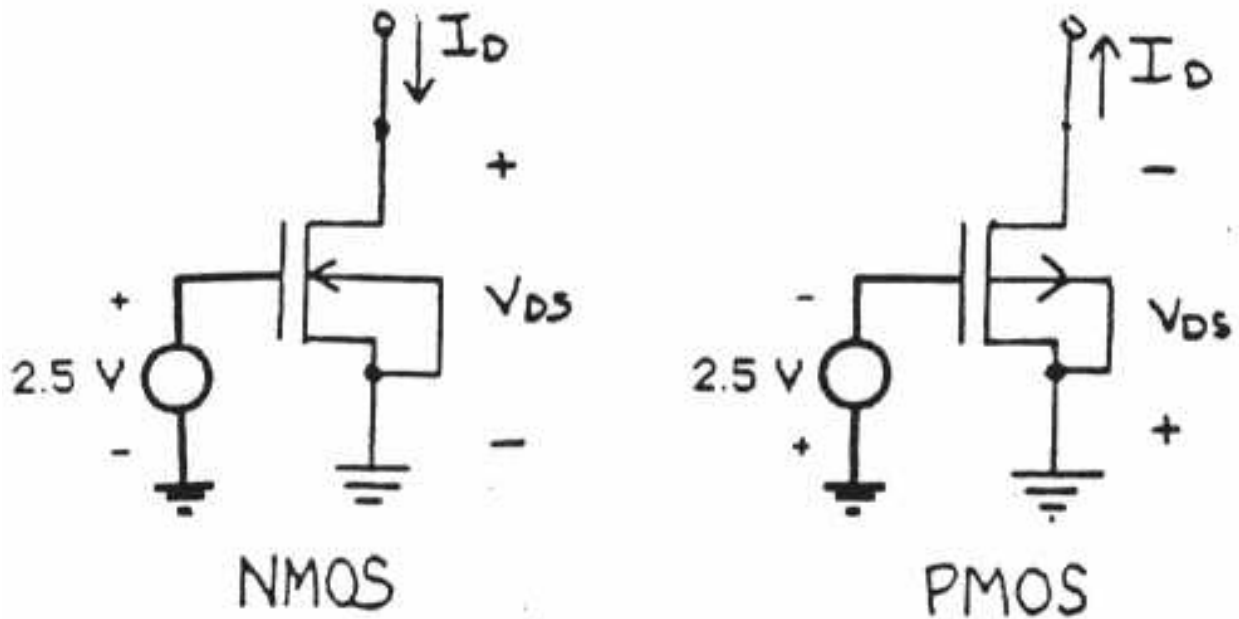

Figure 3: Connections to measure  $I_D$  for  $V_{BS} = 0V$ .
**Part 4 (20 points)** With  $V_{BS} = 0$  V and  $V_{GS} = 2.5$  V, measure drain current  $I_D$  at  $V_{DS} = 2, 2.5, 3, 3.5, 4, 4.5, 5, 5.5$ , and  $6$  Volts using the connections shown in Figure 3 for both NMOS and PMOS devices.